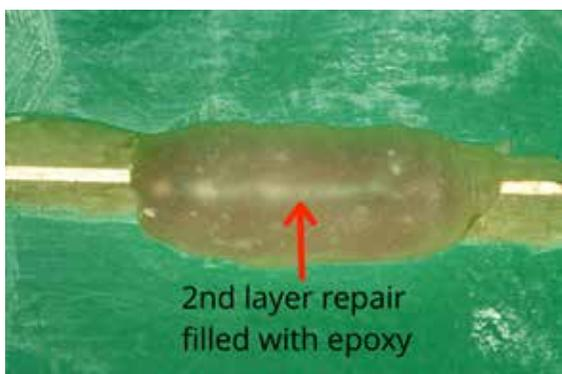

Figure 5
- Epoxy fill excavation, cure epoxy and resurface to level 3 (Figure 5).